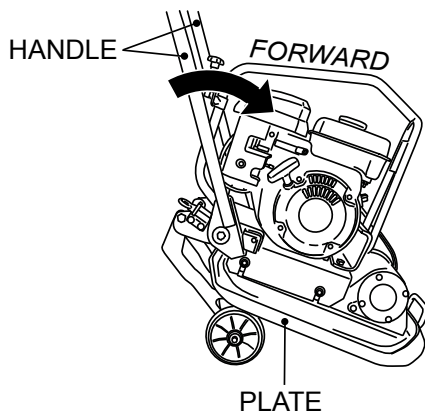

Figure 12. Tilting the Compactor
1. Push compactor handle forward tilting the compactor then pull out axle from under the plate (Figure 12).